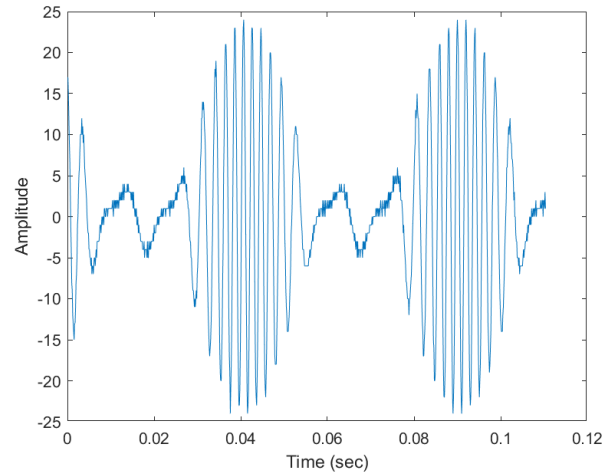

Fig. 4: FM signal after derivative operation.
- 8) The received FM signal after the derivative operation can be seen in Fig. 4.